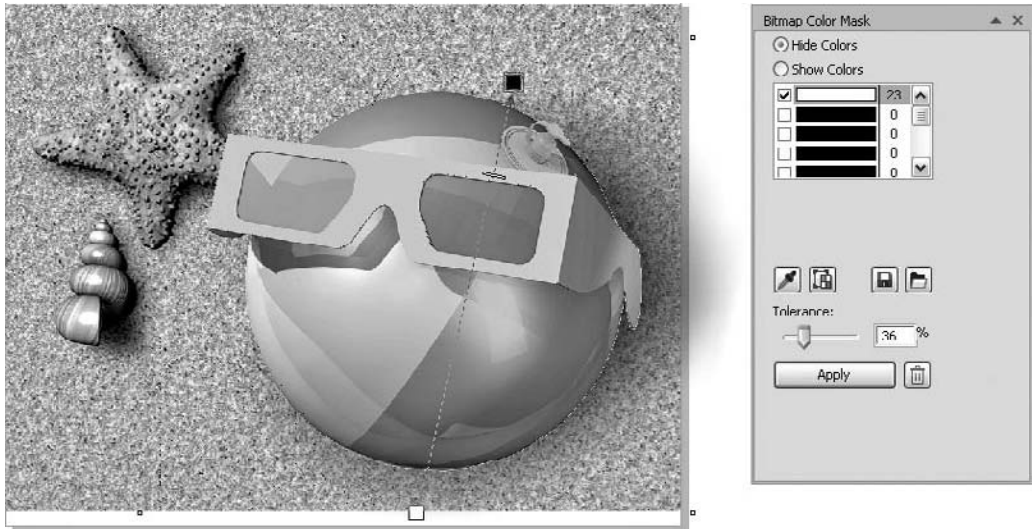

FIGURE 27-10 Use the Tolerance slider on the Bitmap Color Mask docker to increase the mask of the color you chose.
7. Well, oops! It appears that there is some fringing between the ball and its shadow, an unwanted width of white background pixels from the original image. With the Pick Tool, click and make sure the beach ball image and not the drop shadow is selected; then drag the Tolerance slider up to about 35 and click Apply. As you can see in Figure 27-10, the beach ball looks like it's part of the scene. The reason the off-white glasses aren't masked is because they aren't pure white like the background